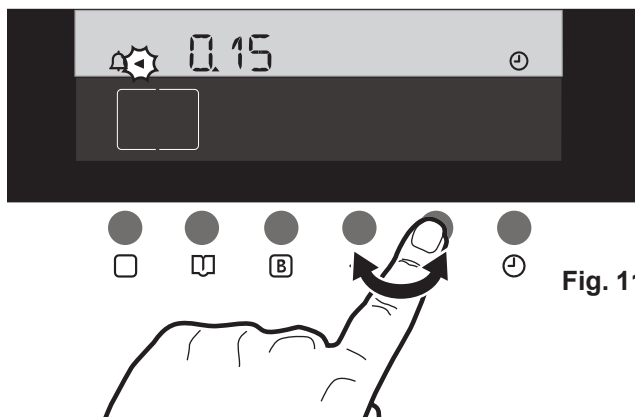

Fig. 11
2. Symbol  will flash for 5 seconds. Within this time, press button "+" to select the required time (Fig. 11). Maximum time is 23 hours 59 minutes. After another 5 seconds after you have set the time, the symbol  stops flashing. This means that the setting has been stored in the Electronic Control memory and that the countdown started.
Press the "Time Function" button : the symbol  flashes near the "Minute Minder" symbol . It is now possible to change the Minute Minder setting by pressing button "-" or "+" (Fig.11).